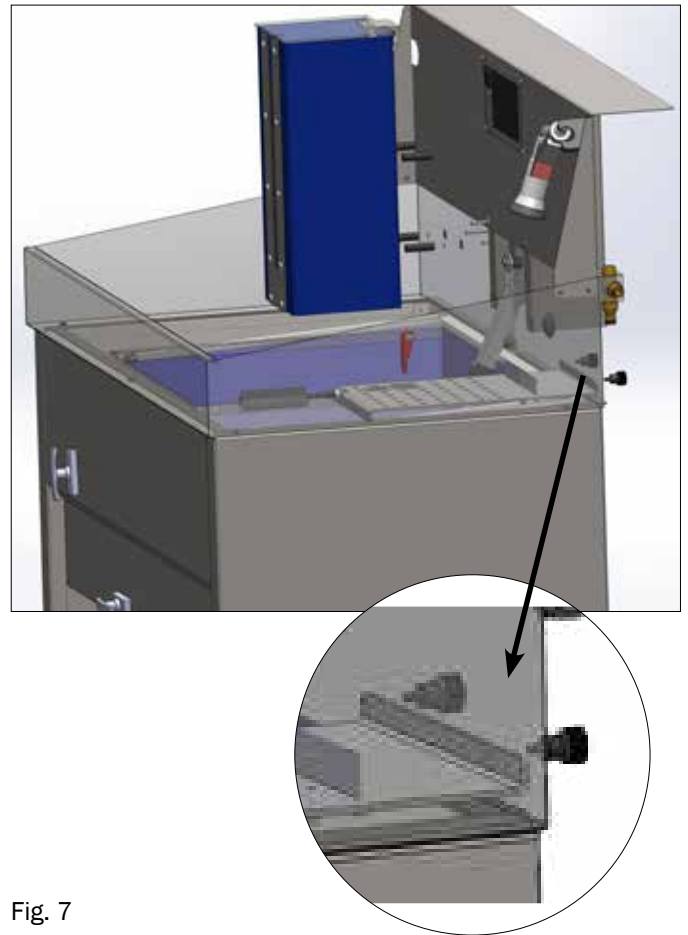

Fig. 7
- Place the station with the holes at the rear right into the and secure it from the rear of the unit with the (8) Fig. 7.